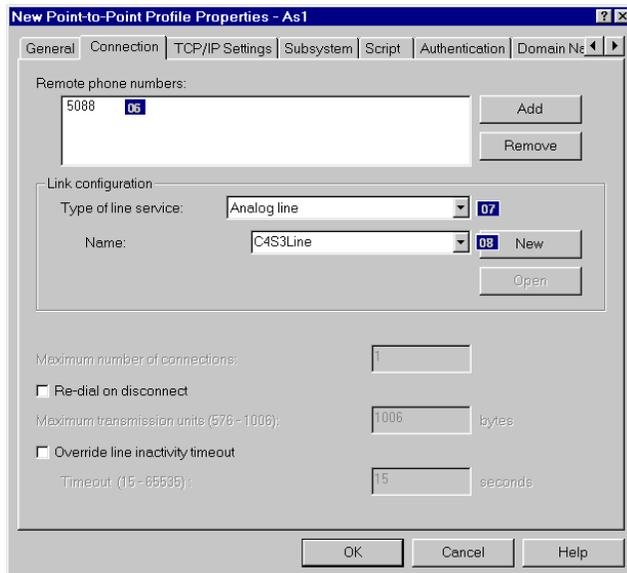

Figure 116. Creating a new line for the C4S3 PPP profile
2. Click the **Connection** tab (Figure 116 on page 132).
8. Click **OK**. Then, the Point-to-Point Profile Properties display shown in Figure 116 on page 132 appears again.